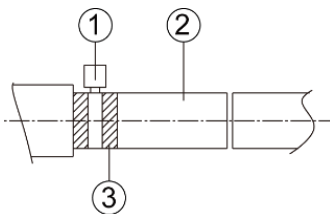
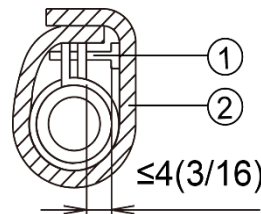

Fig10
Fig11
1. Insert the drain hose into the drain hole and secure with clamp, as shown in (Fig10).
- a. metal clamp (① accessory)
- b. drain hose (② accessory)
3. Use the foam insulation provided to insulate the clamp and hose, as shown in (Fig11).
- b. thermal sponge (② accessory)